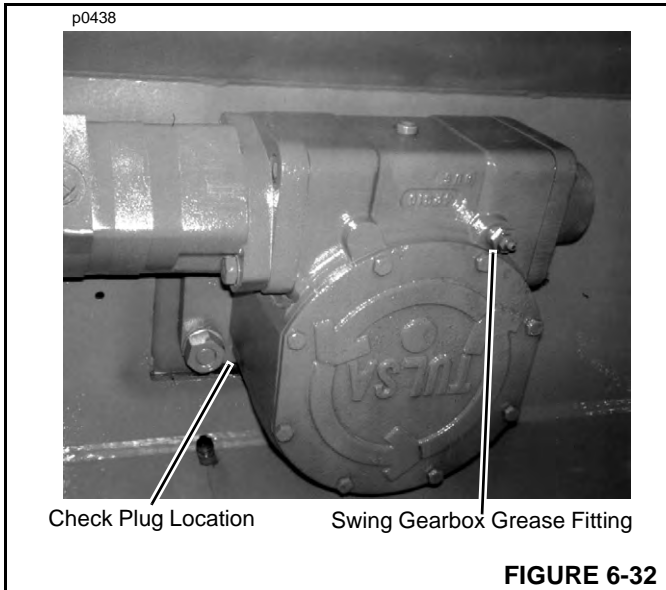

FIGURE 6-32
2. Clean the grease fitting and check plug (Figure 6-32).